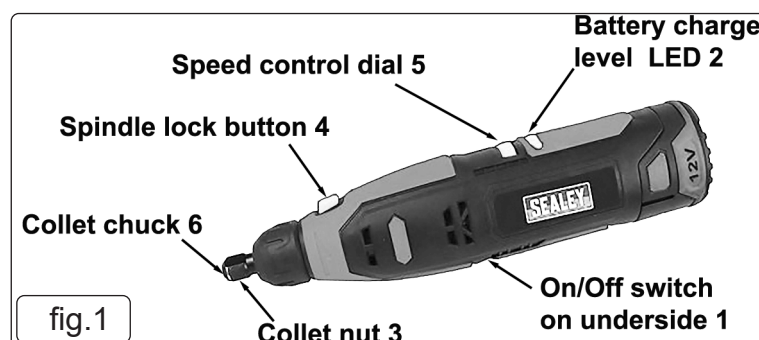

fig.1
5.1.2. To turn the cordless multipurpose mini grinder On set the On/Off switch (fig 1 - 1) to "I".
5.1.3. To turn the cordless multipurpose mini grinder Off set the On/Off switch (fig 1 - 1) to "O".
5.2.1. Set the speed control dial (fig 1 - 5) to a position between "1" and "MAX".
Set the On/Off switch (fig 1 - 1) to the "I" position.
5.3.3. The remaining charge will be shown on the battery charge level LED (fig 1 - 2) as follows:
5.4.2. Press the spindle lock button (fig 1 - 4) and hold it down.
5.4.3. Keeping pressure on the spindle lock button (fig 1 - 4) turn the collet nut (fig 1 - 3) until the spindle lock clicks into place.
5.4.4. Undo the collet nut (fig 1 - 3) from the threaded output shaft using the combination spanner and remove.
5.4.5. Select the appropriate collet chuck (fig 1 - 6) and insert centrally into the opening in the threaded output shaft.
5.4.6. Replace the collet nut (fig 1 - 3) and screw finger tight only. Release the spindle lock button (fig 1 - 4).
5.5.2. Select the tool required and insert the tool shaft centrally into the appropriate collet chuck (fig 1 - 6).
5.5.3. Fully tighten the collet nut (fig 1 - 3) using the combination spanner. Release the spindle lock button (fig 1 - 4).
WARNING! Ensure that the collet nut (fig 1 - 3) is fully tightened, and that the tooling spindle is exactly matched to the corresponding collet chuck. Accessory tools which do not fit precisely with the collet chuck, or become loose, will rotate unevenly, vibrate, or "fly" off violently which can lead to a loss of control and the risk of personal injury.